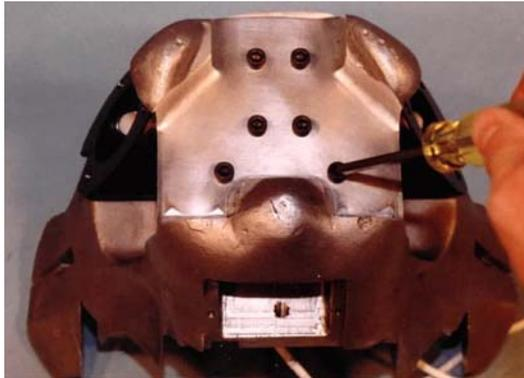

Figure 11.14- Pelvic Box bottom mounting bolt locations
12. Insert and tighten six 1/4"-28 x 3/4" SHCS {3/16} into the bottom of the pelvis, as shown in **Figure 11.14**. Tighten all the pelvis mounting bolts.